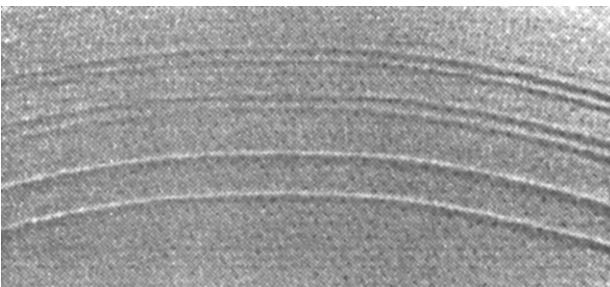

Figure 9-5.—A tape with pack slip.
- **Pack slip**— Pack slip occurs when the tape is loosely wound on the reel and exposed to excessive vibration or heat. This causes the tape to shift (side-to-side), causing steps in the tape pack. When a tape reel with pack slip is used, the magnetic tape will unwind unevenly and rub against the sides of the tape reel or the tape unit's tape guides. This can damage the tape and cause oxide shedding on the edges of the tape. Figure 9-5 shows an example of pack slip.